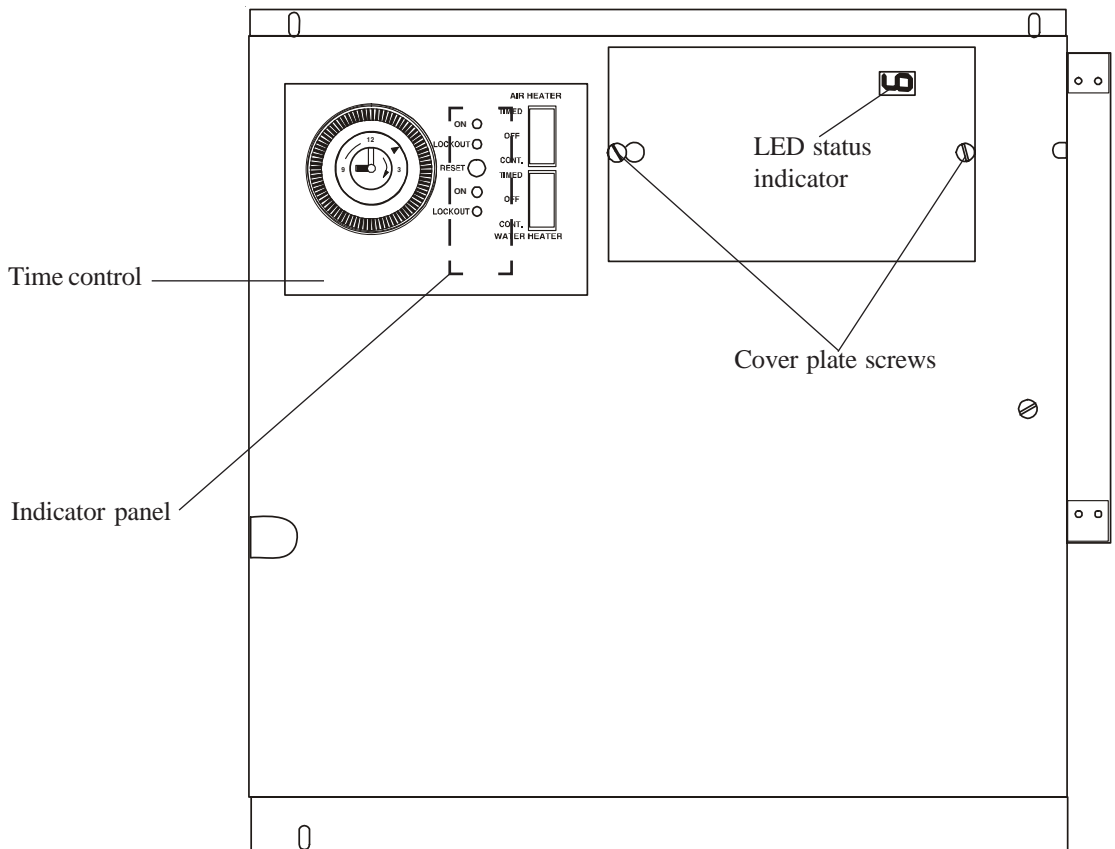

Fig. 7
- 8.5.3 Open the door assembly outwards on its hinges (see fig. 7) such that access is gained to the rear of the assembly.